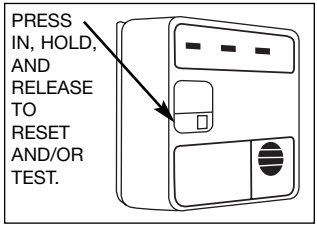

FIGURE 7
11. Firmly **PRESS AND RELEASE THE TEST/RESET** button. See Figure 7. The alarm should sound a short tone. The amber **SERVICE** light will turn on, and the CO alarm will go through its test cycle. The red LED will flash, and the alarm will beep four times followed by 5 seconds of silence and then repeat the cycle. After the test cycle, the amber **SERVICE** light will turn off, and the green **POWER** light will remain lighted which means the CO alarm is operating properly.